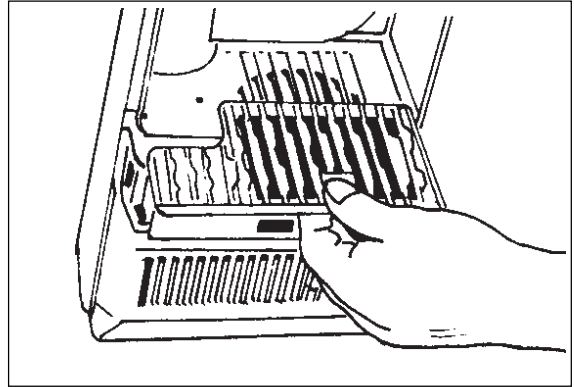

Figure 6
**NOTE:** Install the filter cover with the opening toward the back of the tank housing. See figure 6.